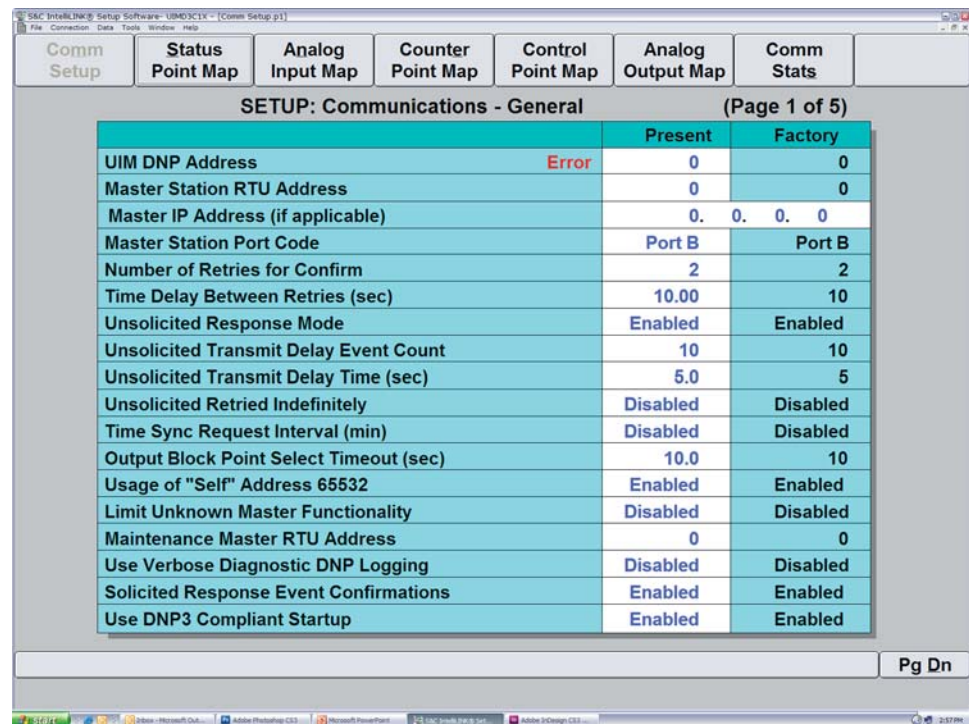

Figure 10. SETUP: Communications - General, Page 1.
10. On the **PRESENT CONDITIONS** screen click the **Comm Menu** button for the **SETUP: Communications - General (Page 1 of 5)** screen (Figure 10). Enter the correct values for the Universal Interface Module.